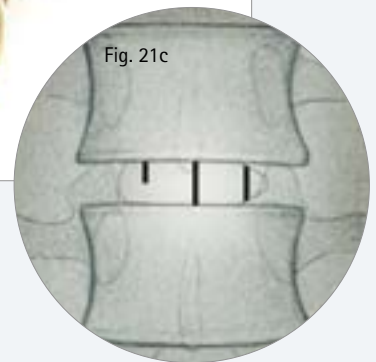

Fig. 21c
- On the AP fluoroscopic image all three markers are visible and the anterior marker should be in the midline (see Fig. 21c).